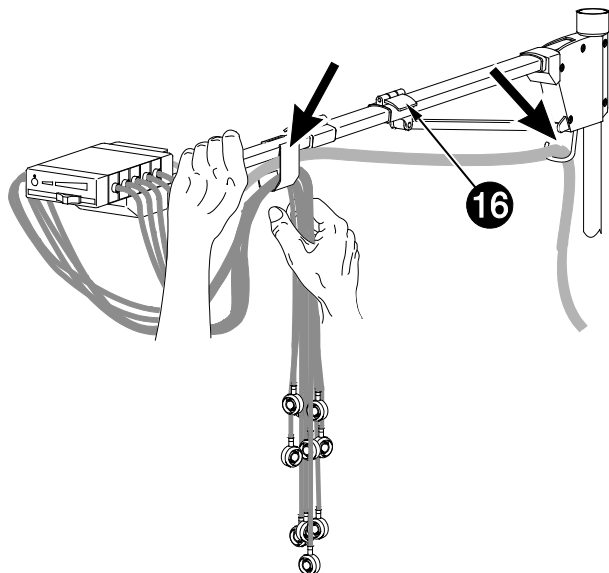

Figure 3-5. Securing the leadwires
- \* Route the joint suction and signal lead as shown in Figure 3-5.
- \* Secure the leadwires as shown in Figure 3-5.
- \* When adjusting the height of the swivel arm, support the arm with one hand to prevent it from collapsing when you open clamp (16).